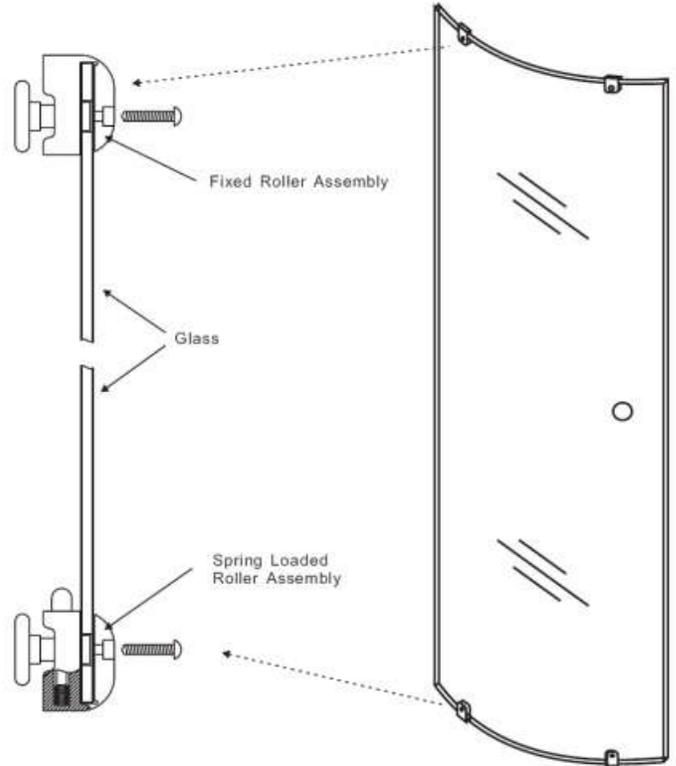

Figure 7
- Attach the fixed roller assembly and the spring loaded roller assembly to the top and the bottom of the sliding door panels respectively. Making sure that the fixed roller assembly goes on the top and the spring loaded goes on the bottom of the sliding glass panel. See figure 7.